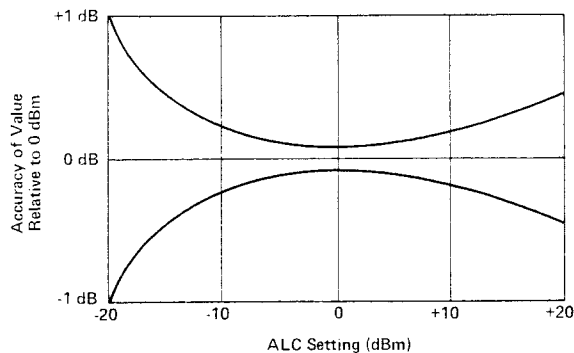

Figure 2. Typical ALC Incremental Accuracy
- Power Sweep Width and Linearity: See Figure 2.